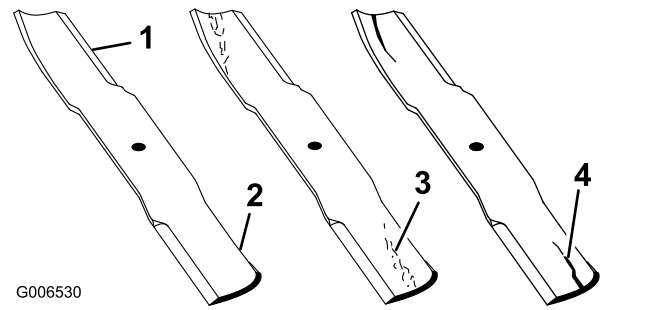

Figure 61
2. Inspect the cutting edges (Figure 61).
4. Inspect the blades, especially the curved area (Figure 61).
5. If you notice any damage, wear, or a slot forming in this area (Figure 61), immediately install a new blade.